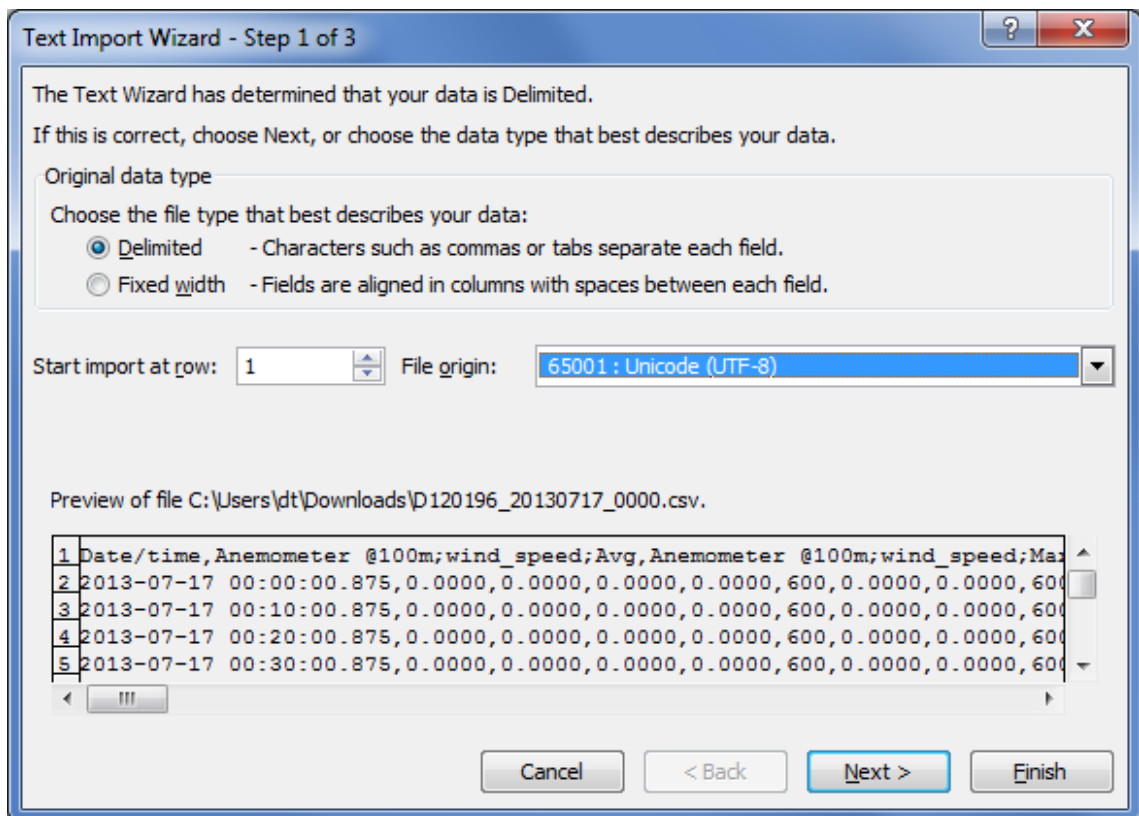

Figure 6.12: Microsoft Excel 2010™ CSV Import (3)
3. In the first step of the wizard choose *Delimited* as *Original data type* and select *Unicode (UTF-8)* for the file origin. See Figure 6.12.